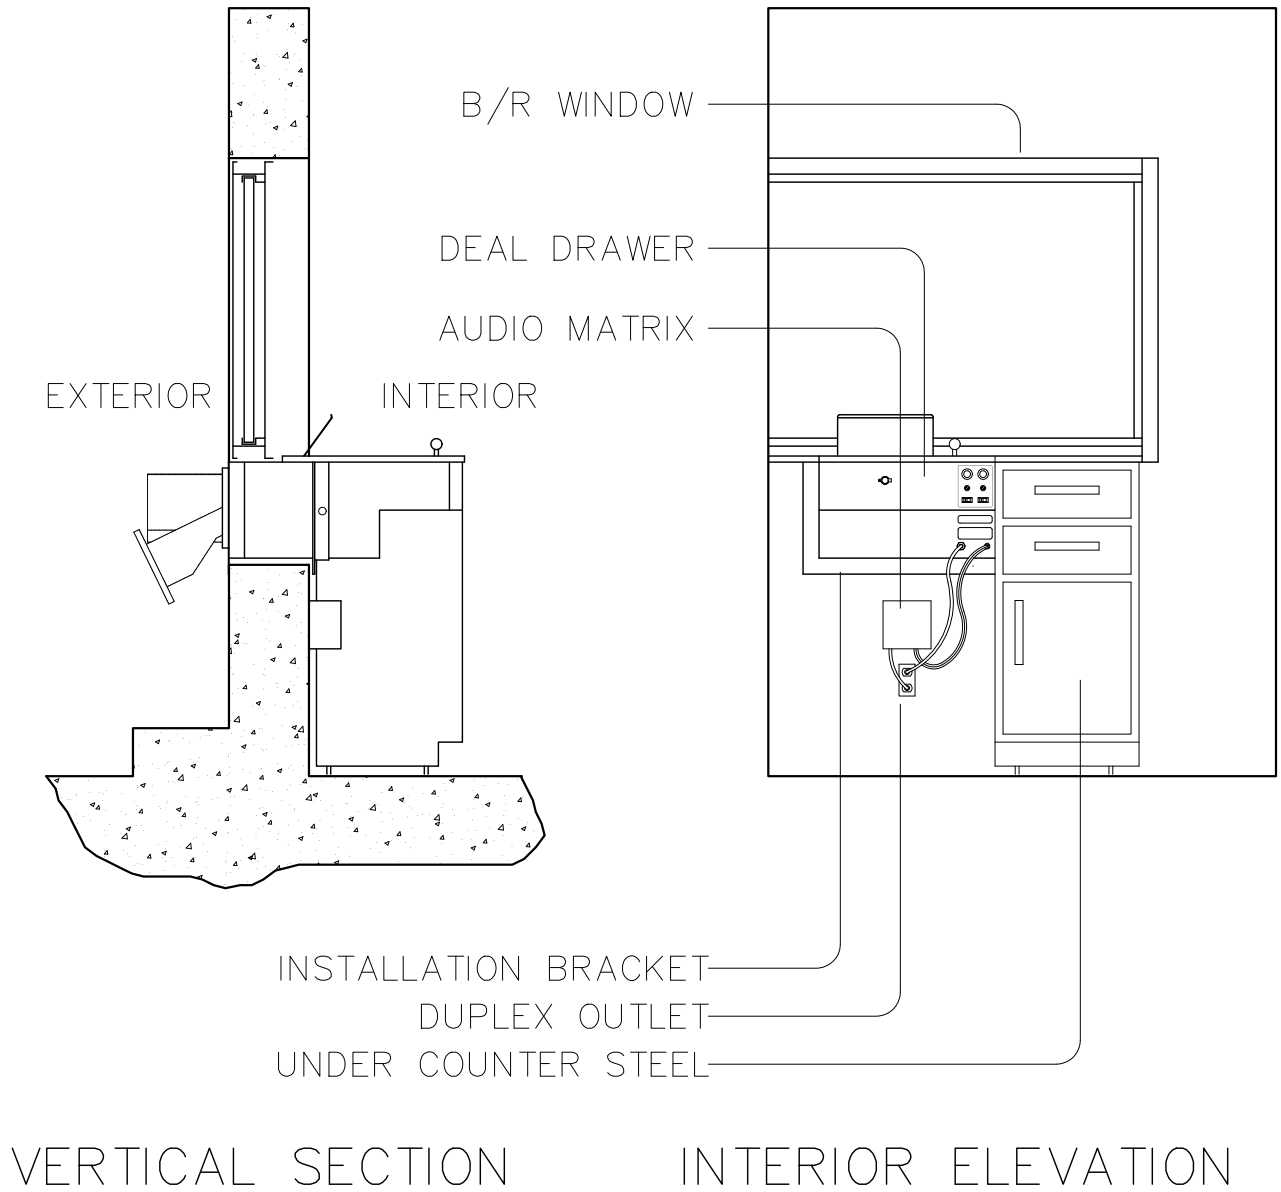

FIG. 2.2 INSTALLATION DRAWING
- 2.4 Installation Drawing (Figure 2-2)
Refer to Figure 2-2 for Installation Drawing